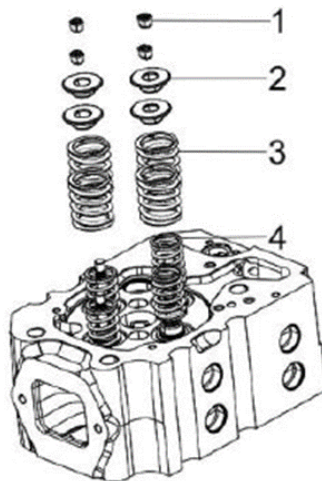

Figure 81. Valve Spring Assembly
- Place the cylinder head on the workbench with the combustion side down to install the valve springs. Install the valve springs (Figure 81, items 3 and 4) and the spring retainer (Figure 81, item 2).
- Insert the valve keepers (Figure 81, item 1) and slowly release the tension on the valve spring.